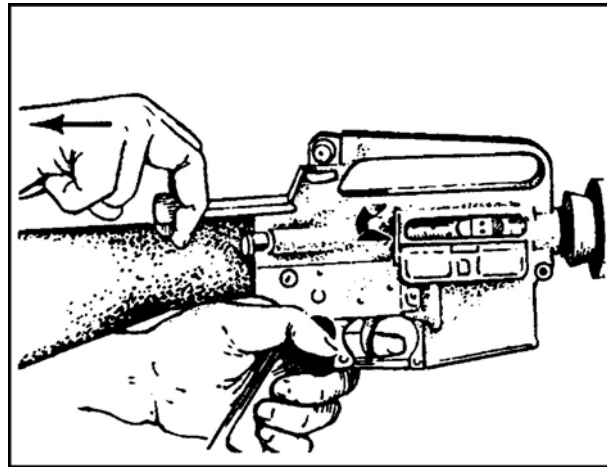

Figure 5. Charging handle.
- f. Pull the charging handle to the rear and release it (Figure 5).